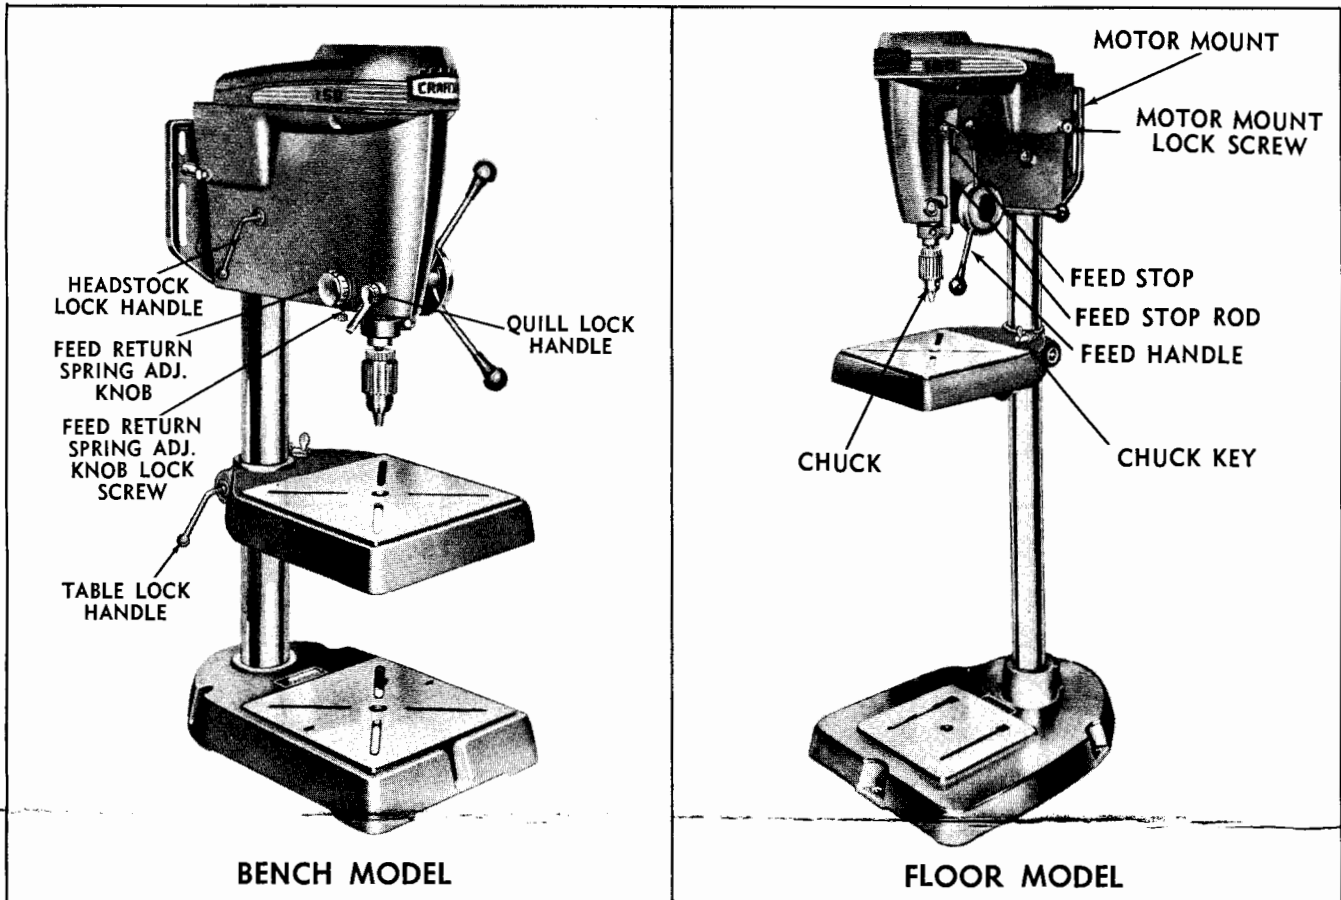

FIGURE 1
Place feed handles on tool as shown in Fig. 1.
Place the chuck key in the hole provided at side of table support, see Fig. 1.
To install motor loosen the **motor mount lock screws**, Fig. 1, until the **motor mount** may be removed. Fasten the motor to the motor mount with the bolts, nuts, and washers provided so that when motor mount is reinstalled on the tool, the larger portion of the mount will be down. For convenience, if your motor has a switch, and rotation will be correct, place motor on motor mount so that the switch is on the left side. **Direction of rotation of the spindle must be clockwise when viewed from pulley end of spindle.**
If the automatic feed return fails to return the chuck to the top of the stroke or if the return action becomes sluggish, the tension may be adjusted as follows; Lock the chuck at the top of its stroke using the quill lock handle. Hold the **feed return adjusting knob** firmly and release the **feed return adjusting knob lock screw**, Fig. 1. Turn the adjusting knob counter-clockwise and re-tighten the lock screw. Release the quill lock handle and run the chuck down. If spring tension is still not sufficient repeat the above adjustment until it is.
To change the locked position of table lock handle or headstock lock handle (Fig. 1), remove handle and rotate table lock, item 67, or headstock lock, item 51, 180°. Re-insert and tighten lock handle.
The **Quill Lock Handle**, (Fig. 1) for greatest ease of operation should point **down** when **locked**. To change the position of the handle, loosen the set screw, remove handle from hex head screw and rotate to correct position. Replace handle and tighten set screw.